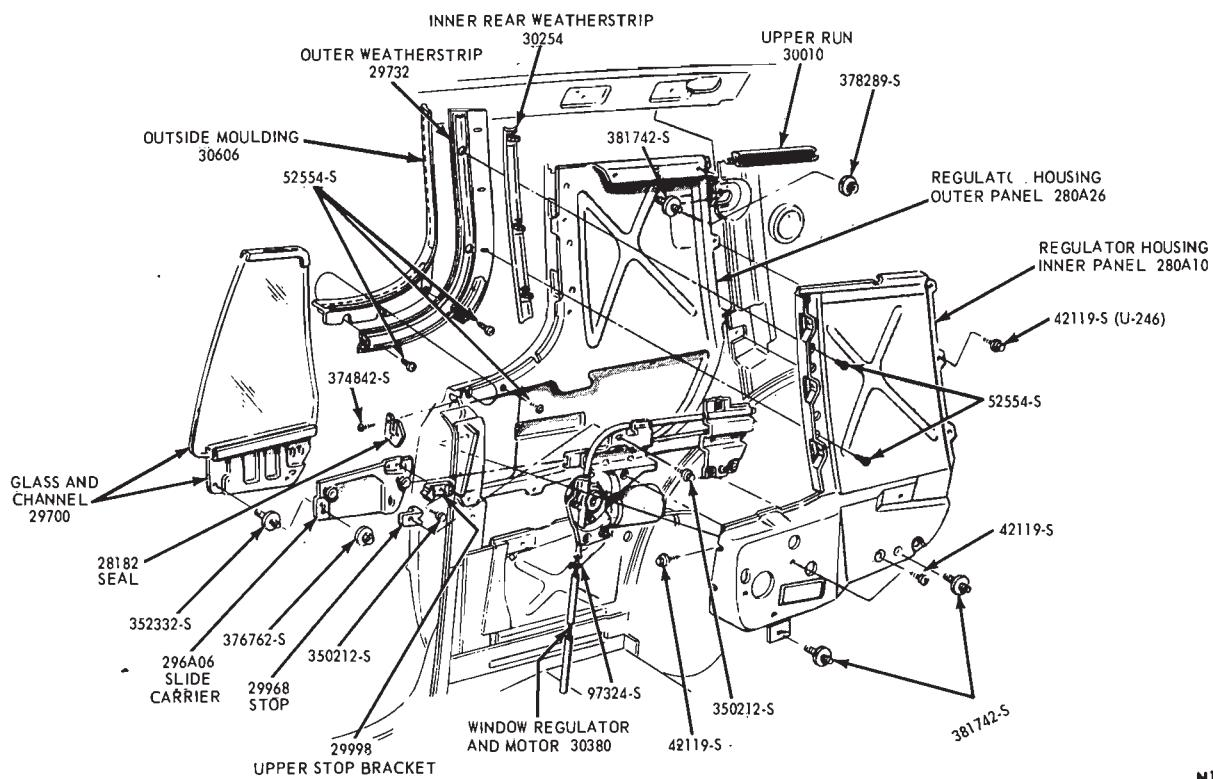

FIG. 12—Quarter Window Mechanism—Continental Mark III
9. Remove two nuts and washers from the adjusting screws that retain the glass and channel to the slide carrier (Fig. 12). Remove the glass and channel from the quarter window assembly.